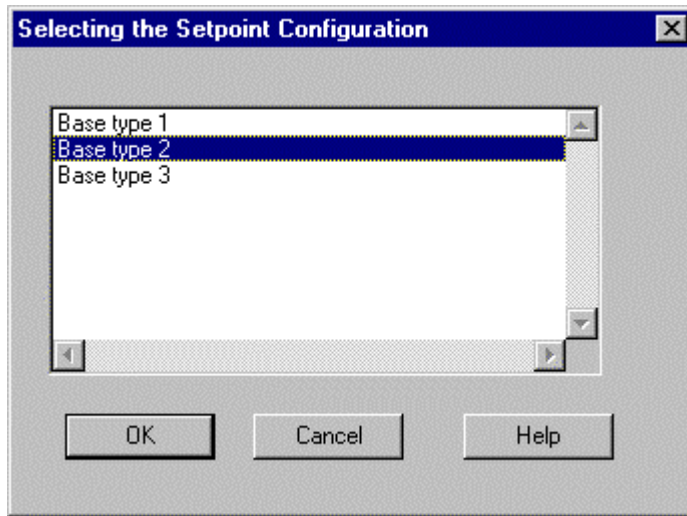

Figure 2
- When prompted, you must select "Base type 2" (Figure 2).